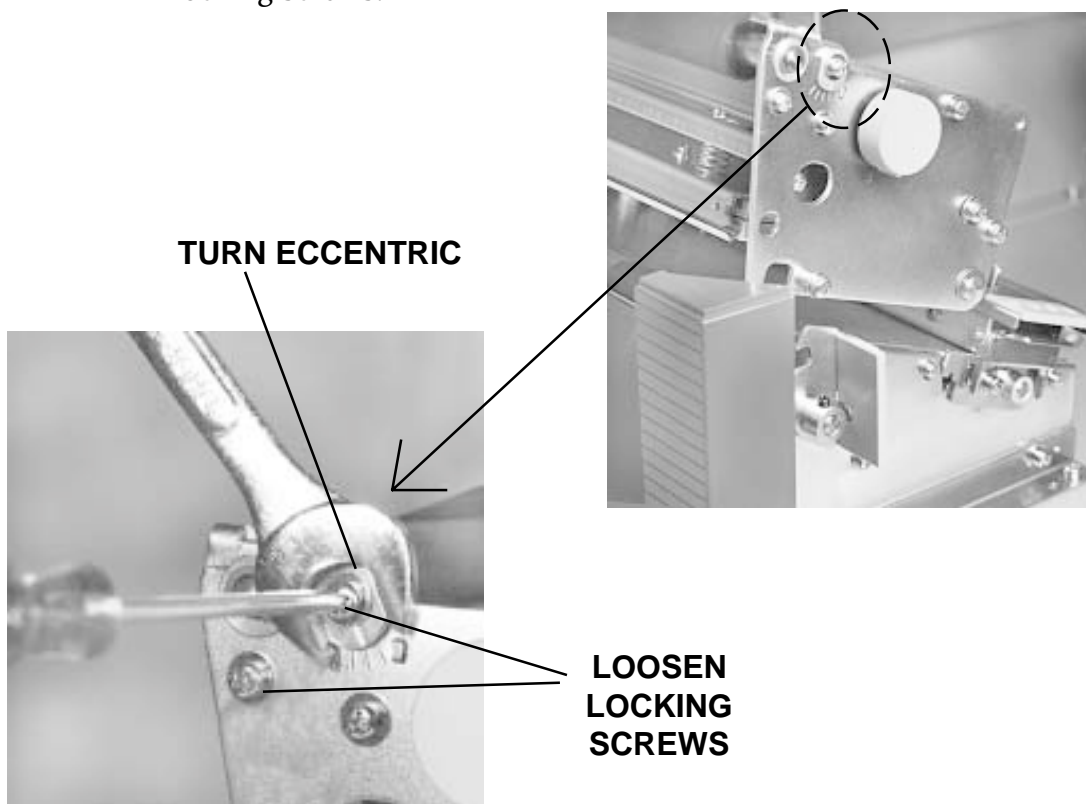

Fig. 5-9
3.	Loosen the locking screws. Fig. 5-9